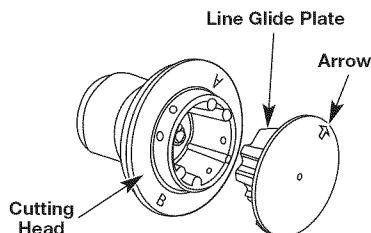

Fig. 11
3. Reinstall line glide plate (Fig. 11). Align arrow with: "A" when using medium (red) or large (black) line, or "B" when using lines with diameters smaller than medium (red) line